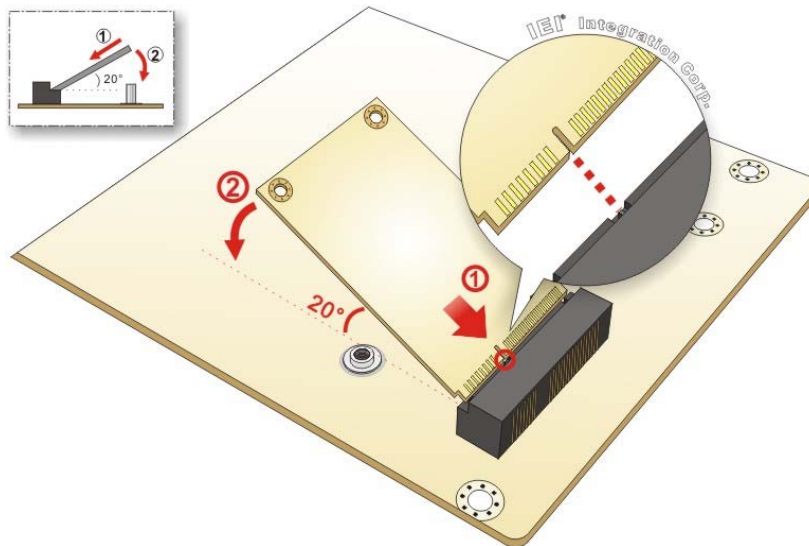

Figure 4-3: Inserting the Full-size PCIe Mini Card into the Slot at an Angle
Step 3: Line up the notch on the card with the notch on the slot. Slide the PCIe Mini card into the socket at an angle of about 20° (**Figure 4-3**).